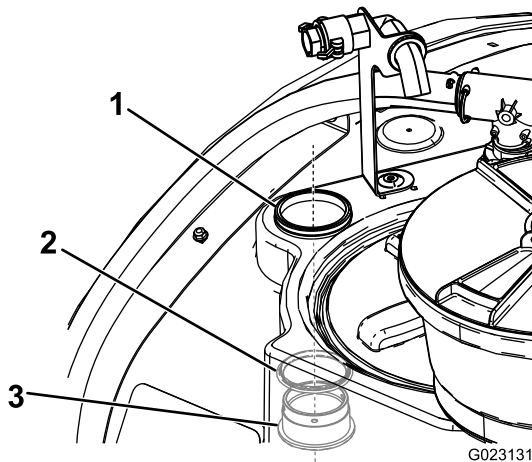

Figure 15
2. Install the bulk head and the O-ring up from inside the tank through the previously cut opening (Figure 15).